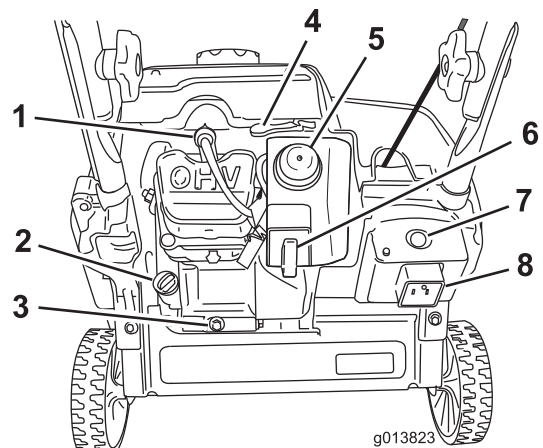

Figure 12
2. Clean around the oil-fill cap (Figure 12).
3. Clean around the oil-fill cap (Figure 12).